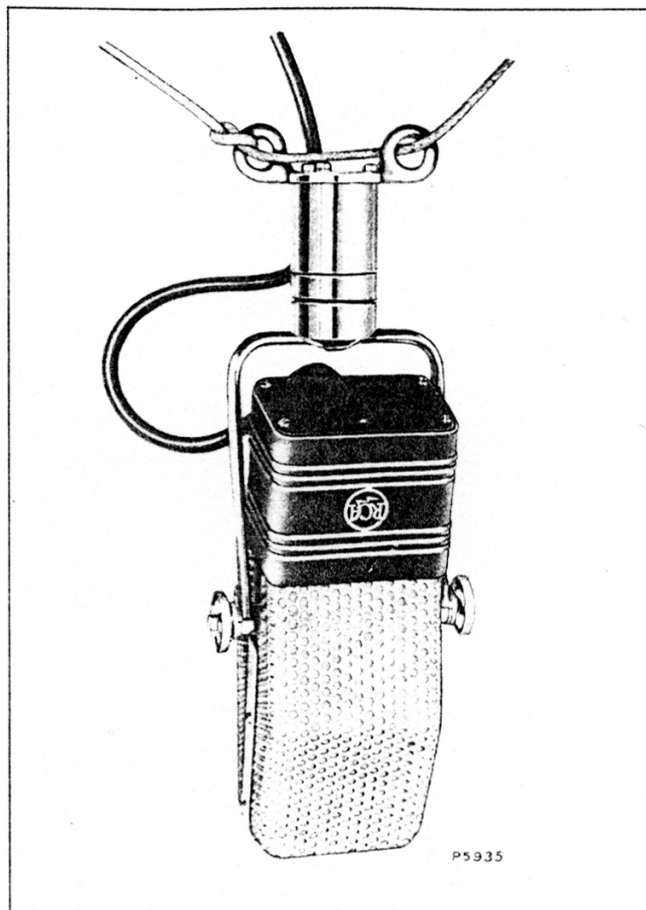

Figure 2—Microphone on Suspension Hanger
***IMPORTANT:** When suspension mounting is used the weight of the microphone should be carried by the hanger, with no strain on the cable. (See Figure 2.)*